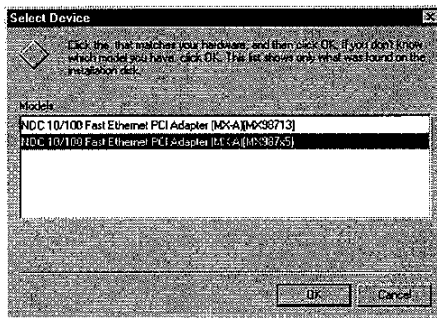

Figure 29. Select OEM Option
- step6. Click *OK*. The *Select Device* dialog box will open (Figure 29). Select the second choice and click *OK*